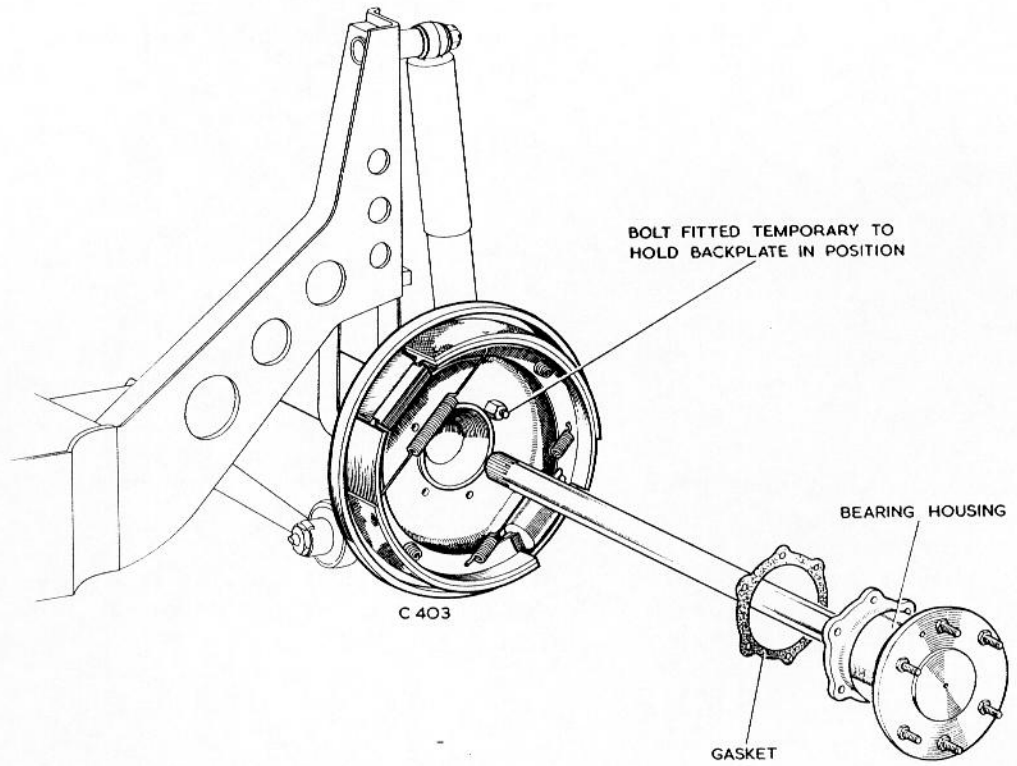

Fig.4 Withdrawing half-shaft.
3. Withdraw the half-shaft complete with bearing housing and outer gasket, see Fig.4, then fit a nut and bolt temporarily to secure the backplate to the axle flange.
2. Fit a new outer gasket where necessary, (see Fig.4) followed by the half-shaft.